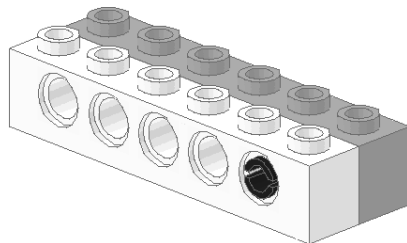

Figure 5-10: Two Technic Bricks with pin properly aligned.
3. Insert a second 1x6 Technic Brick and align it next to the first, as shown in Figure 5-10.